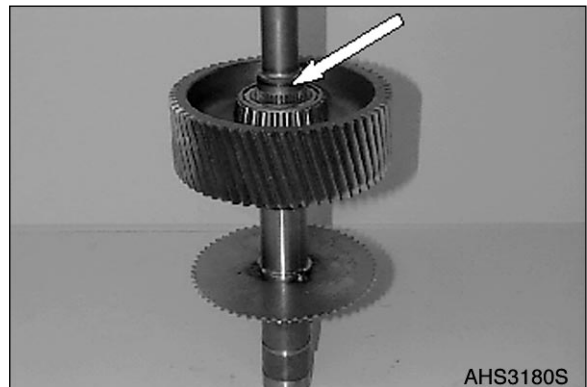

Figure 370
7. Squeeze circlip in (Figure 370) and engage it.